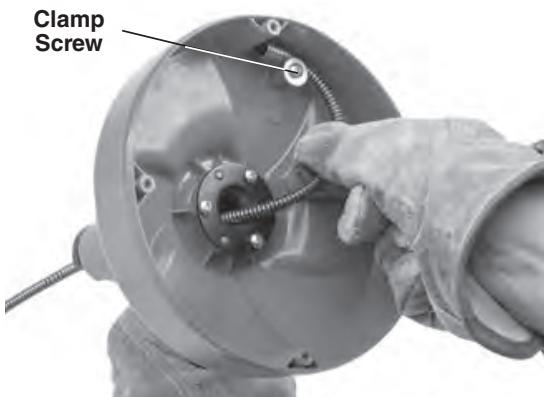

Figure 11 – Securing Cable End
4. Remove cable clamp screw. Remove existing cable (*Figure 11*).
7. Place cable end as shown inside drum (see *Figure 11*), and secure with cable clamp screw.